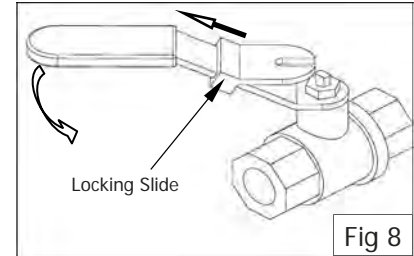

Fig 8
- b. While holding locking slide in withdrawn position, rotate handle anticlockwise (Fig 8) to open valve.